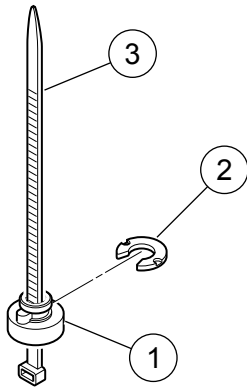
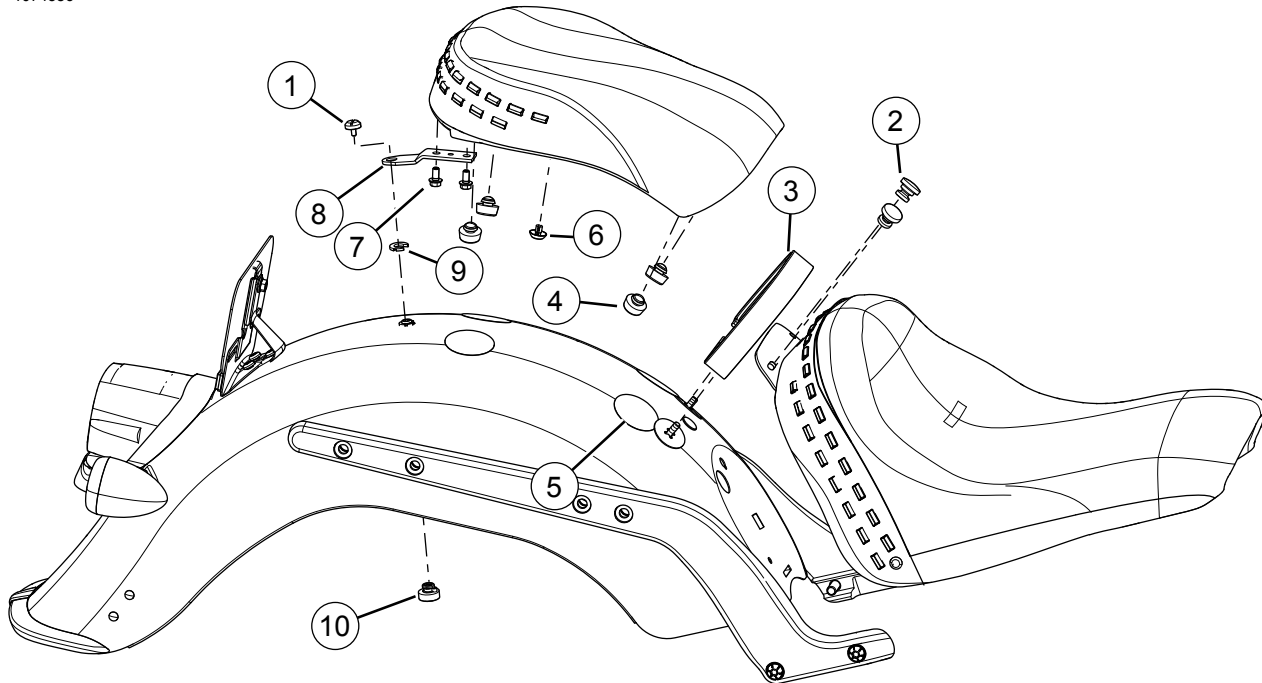

Figure 1. Installation Tool
Figure 2. Service Parts: Sundowner Pillion Seat Kit
See Figure 2 and Table 1.
1. See Figure 2. Remove existing pillion from motorcycle following the instructions in the Owner's Manual.
2. Remove seat and grabstrap (3) by removing mushroom head nuts (2). Discard existing grabstrap.
3. Kits 52400168 and 52400175: See Figure 2. Mark and apply protective tape to fender.
- a. Mark the bottom of the four isolators (4) with chalk.
- d. Place protective tape (5) on the rear fender over the marks transferred to the fender.
4. Kits 52400168 and 52400175: See Figure 1. Install retention nut and retention washer in the rearmost fender hole.
- a. A cable strap may be used as an installation aid to install the retention nut and washer. Place the retention nut (1) over the cable strap (3) so the wide end of the nut rests on the eye of the cable strap. Thread the cable strap up under the fender and through the appropriate fender hole. Pull up on the cable strap to hold the nut snug against the underside of the fender.
- b. With the rib on the retention nut seated into the notch in the appropriate fender hole, slide the retention washer (2) into place from the rear. This will lock the retention nut in place. Remove the cable strap.